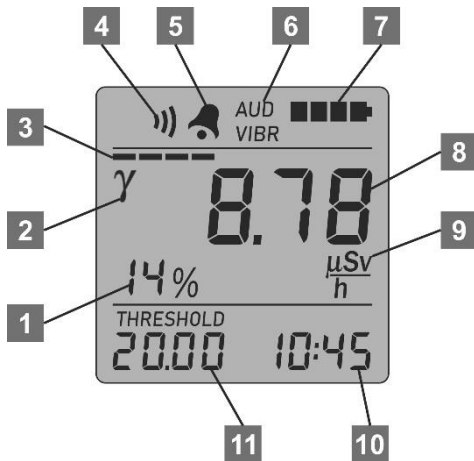

Figure 3 – LCD of the dosimeter
The dosimeter provides the option to choose between three alarm types: audio, vibration and vibration-audio. Irrespective of the operating mode of the dosimeter a short press of the two buttons at a time (MODE and THRESHOLD) changes the alarm type and activates it for a short time. The alarm type is displayed on the LCD with “AUD” and/or “VIBR” symbols (6) (Figure 3).
Irrespective of the chosen operating mode, the dosimeter carries out a non-stop control of batteries status. The control results are displayed on the LCD with a battery status symbol (7) (Figure 3), which consists of four segments. The number of blinking segments shows the level of batteries discharge. Blinking of three or four segments is accompanied by short audio and/or vibration signals. This means that the batteries should be replaced.
In this mode the dosimeter LCD displays the following information (Figure 3):
If the DER measurement results exceed the alarm threshold level (11), the dosimeter sends a two-tone audio signal and/or an intermittent vibration signal, which depends on the chosen alarm type. Measurement results start blinking on the LCD of the dosimeter. Periodic and gradual (from left to right) highlighting of the sound symbol segments (4) serves as an indication of the threshold level exceeding as well (Figure 3).